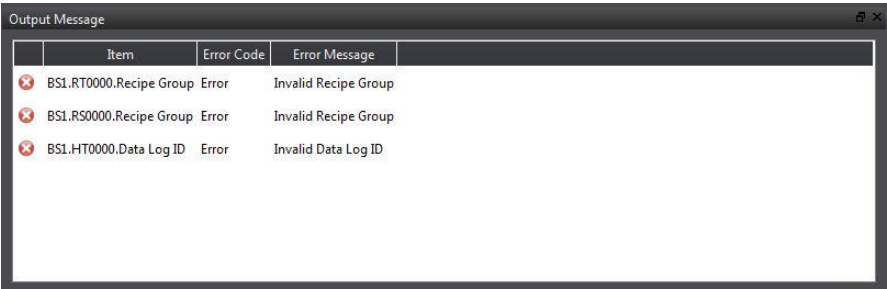

Figure 394 Compilation process illustration
**【Output Message】** . The error information will include the (1) component, (2) success or error code and (3) compile message as shown in Figure 394. Users can click on the message once to move to the object or double-click on the message to open the error screen and focus on the component setting screen of the error, allowing the user to quickly debug the error.